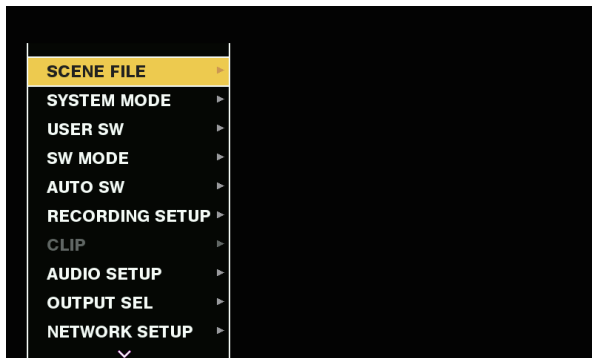

Fig. 1
**2** Press the control stick upward/downward to place the cursor on the desired menu item. (Fig. 1)
### 2 Turn the <SEL/PUSH SET> dial button to place the cursor on the desired menu item. (Fig. 1)